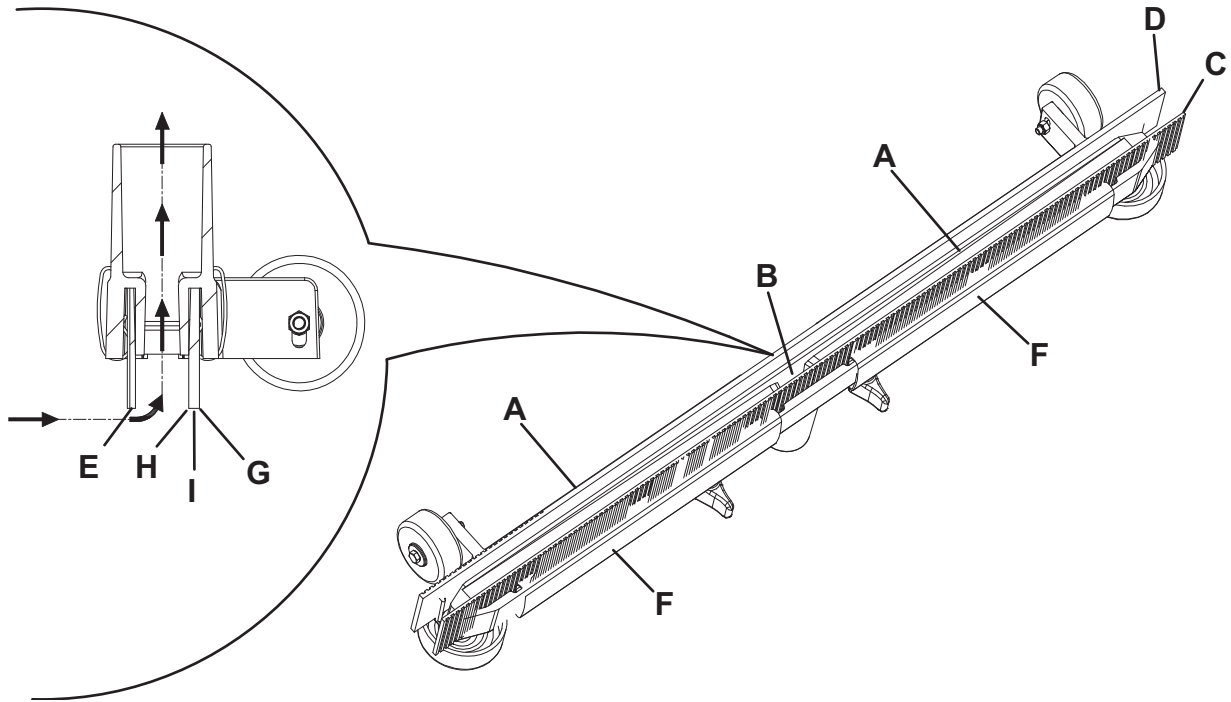

Figure 4
2. Make sure that the power supply cable (21) is disconnected from the electrical mains.
3. Lower the squeegee with the lever (19).
4. Disconnect the vacuum hose (22) from the squeegee.
5. Loosen the handwheels (12) and remove the squeegee (11).
6. Wash and clean the squeegee. In particular, clean the compartments (A, Fig. 4) and the vacuum hole (B) from dirt and debris.
7. Check the front blade (C) and the rear blade (D) for integrity, cuts and tears; if necessary replace them (see the procedure in the following paragraph).
2. Check that the front blade edges (E, Fig. 4) and the rear blade edges (I) lay down on the same level, along their length; if necessary adjust the height according to the following procedure:
- Remove the mounting springs (F), then adjust the front blade (C) and the rear blade (D).
3. Check the front blade (C) and rear blade (D) for integrity, cuts and tears; if necessary replace them as shown below. Also check the front corner (H) of the rear blade for wear; if it is worn, overturn the blade to replace the worn corner with the other one (I), if it is integral. If the other corner is worn too, replace the blade according to the following procedure:
- Remove the mounting springs (F) and then replace (or overturn) the rear blade (D).
4. Install the squeegee (11) and screw tighten the handwheels (12).
5. Connect the vacuum hose (22) to the squeegee (11).